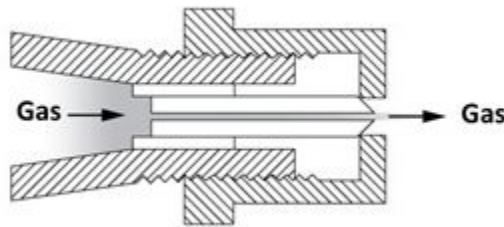

Figure 3 Cap orifice setup for propane
- Figure 3 “Burner port flow velocity” by Camosun College is licensed under a CC BY 4.0 licence (<https://creativecommons.org/licenses/by/4.0/>).
Under the cap (or hood) of the orifice is a needle with a hole drilled through it which is sized for the propane use. For propane operation, which has a higher heat value, the cap is threaded onto the needle (clockwise), giving a fixed flow rate through the needle hole. (Figure 3)